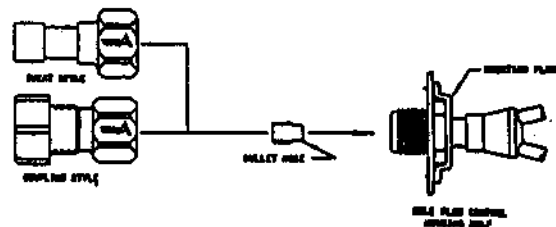
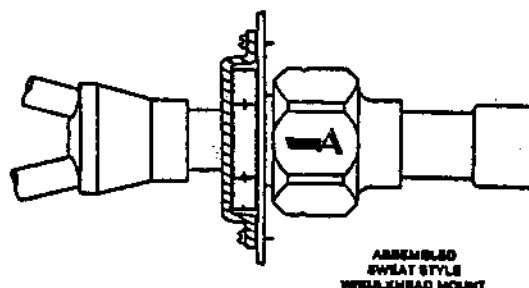
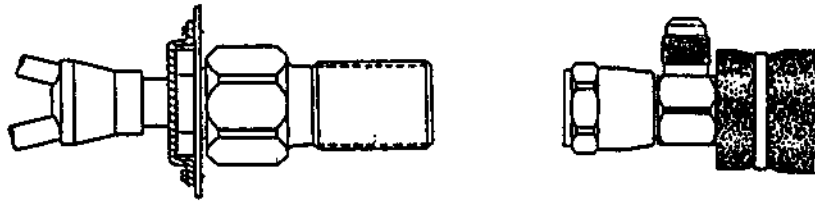

FIGURE 1.
FIGURE 2.
FIGURE 3.
CAUTION: Be sure there is no dirt introduced into the distributor - orifice assembly. Be sure and install the orifice with the bullet nose pointing in the proper direction as shown in figure 1. Failure to do so will result in improper operation.
NOTE: If the orifice does not have to be changed, skip the instructions outlined further in figure 1 and proceed to figures 2 or 3 as applicable.
- STEP 7 Complete piping and installation of unit per installation instructions. See Figure 2 for detailed assembly instructions for sweat type and Figure 3 for detailed assembly instructions for coupling type coils.